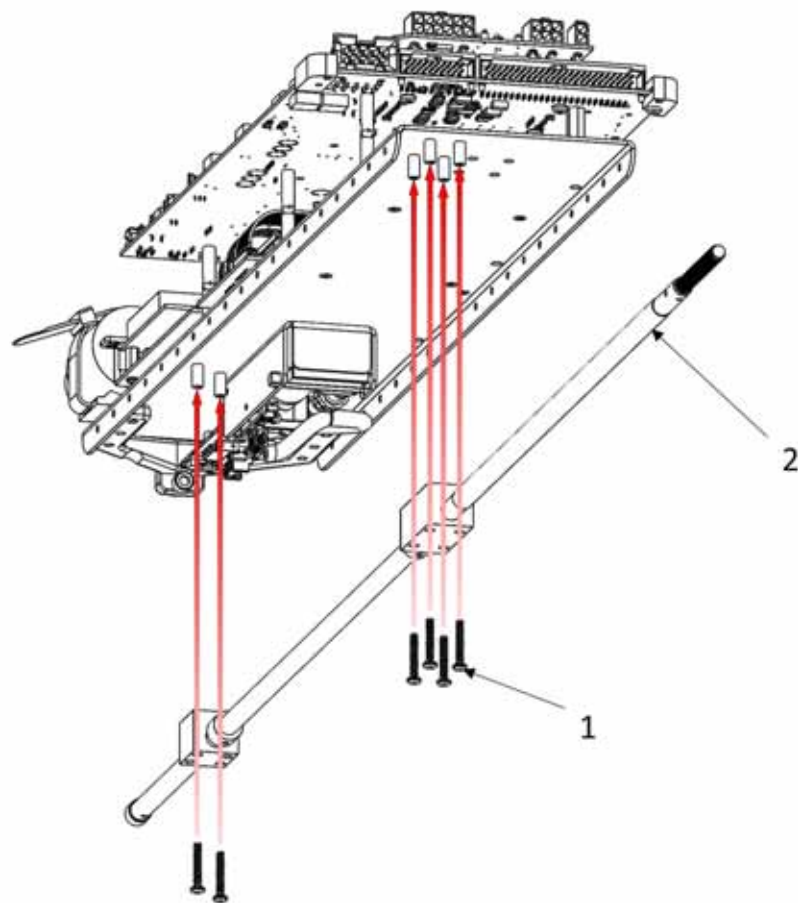

Figure 2-4 Tie rod assembly.
1. Remove the six screws (Figure 2-4, Item 1) that attach the tie rod (Figure 2-4, Item 2) to the bottom of the aft electronics tray.
2. Remove the tie rod (Figure 2-4, Item 2).
1. Position the tie rod assembly (Figure 2-4, Item 2) on the standoffs on the bottom of the aft electronics tray.
3. Install the six screws (Figure 2-4, Item 1) that attach the tie rod (Figure 2-4, Item 2) to the bottom of the aft electronics tray.